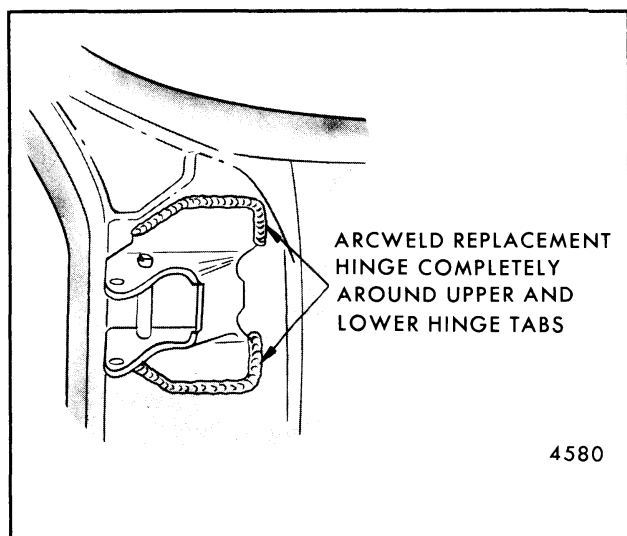

Fig. 5-68-Body Side Hinge Strap Installation - "X" Styles
4. Remove door and complete arc welding of hinge. Arc weld completely around upper and lower hinge tab as shown in Figure 5-68.